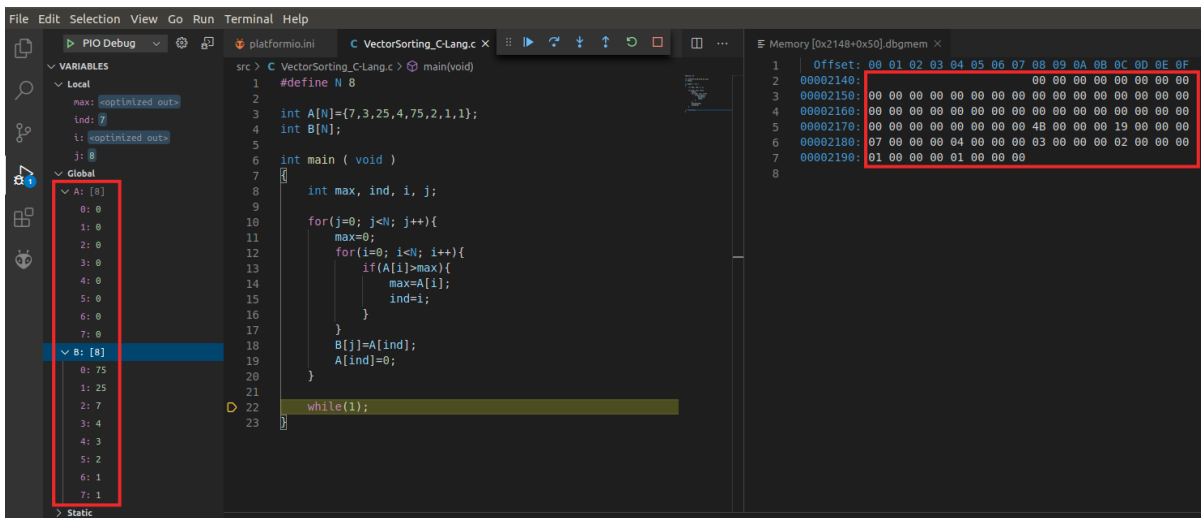

Figure 76. Execution stopped at the end of the program
- Remove all breakpoints, continue execution and pause it after several seconds – at which point the program will have finished executing. Again, analyse the values stored in the A and B arrays. As shown in Figure 76, vector B holds the values from the original vector A sorted from largest to smallest and vector A holds all zeroes (you can see this both at the variables list on the left and at the memory console on the right).